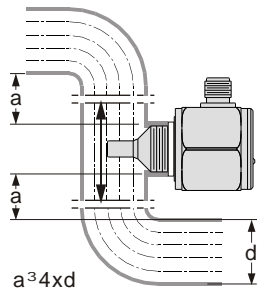

Fig. 1
- (1).Please assure the minimum distance to the tube bends and intersections greater than four times of pipe diameter. (See Fig. 1)